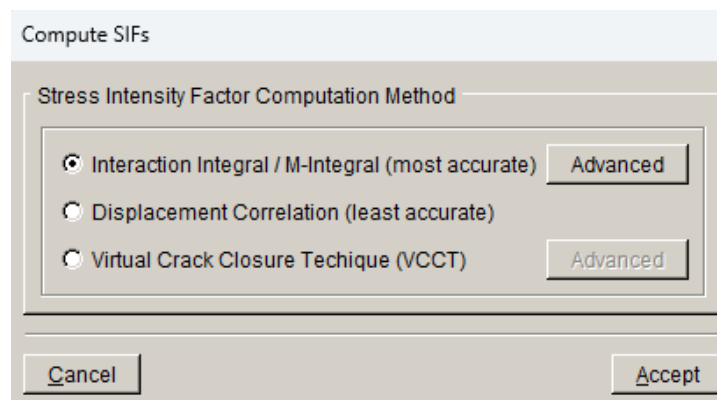

Figure 6.4.1 Compute SIFs panel allows one to choose either M-integral, DC, or VCCT.
The **Compute SIFs** menu option brings up the Compute SIFs dialog box, Fig 6.4.1. Either the M-integral, Displacement Correlation (DC) or Virtual Crack Closure (VCCT) method can be chosen to compute SIFs. The M-integral method¹ is usually the most accurate. The DC option can be used to check the M-integral values. The VCCT method was added primarily for cracks in material interfaces.